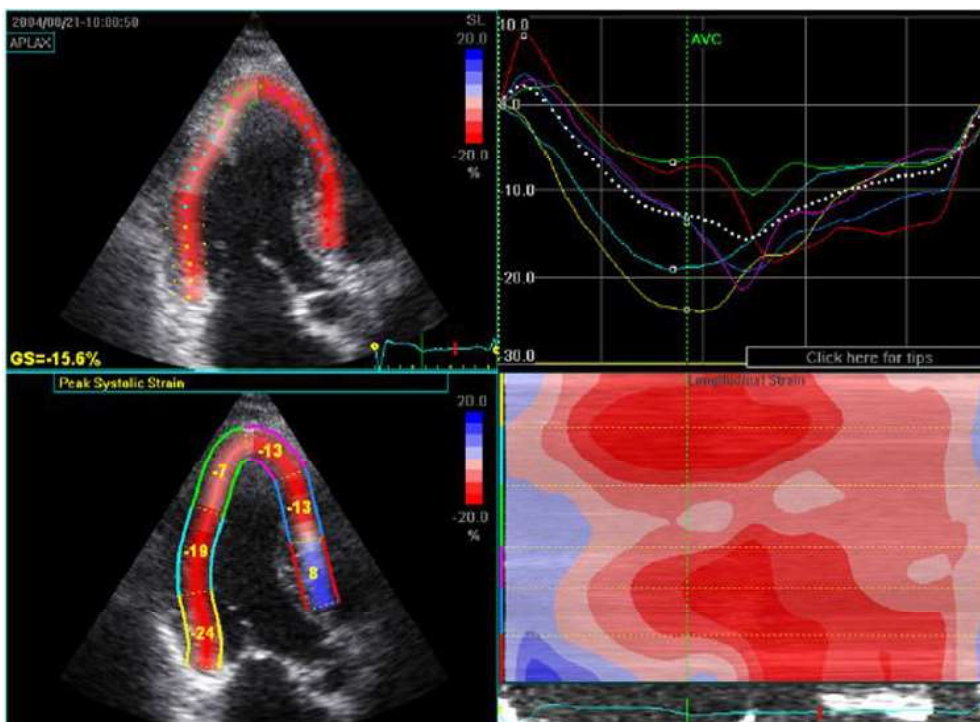

Figure 13-171. Quad screen for the APLAX view
- Quad screen (see Figure 13-171 on page 13-314) displaying: